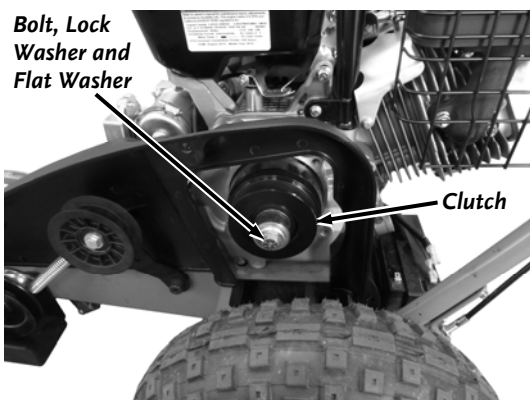

Figure 51
2. Place a 1/2" Wrench (Premier) or 5/8" Wrench (Pro and Pro-XL) onto the Clutch Bolt and rotate the Wrench counterclockwise until you feel some resistance (**Figure 51**).